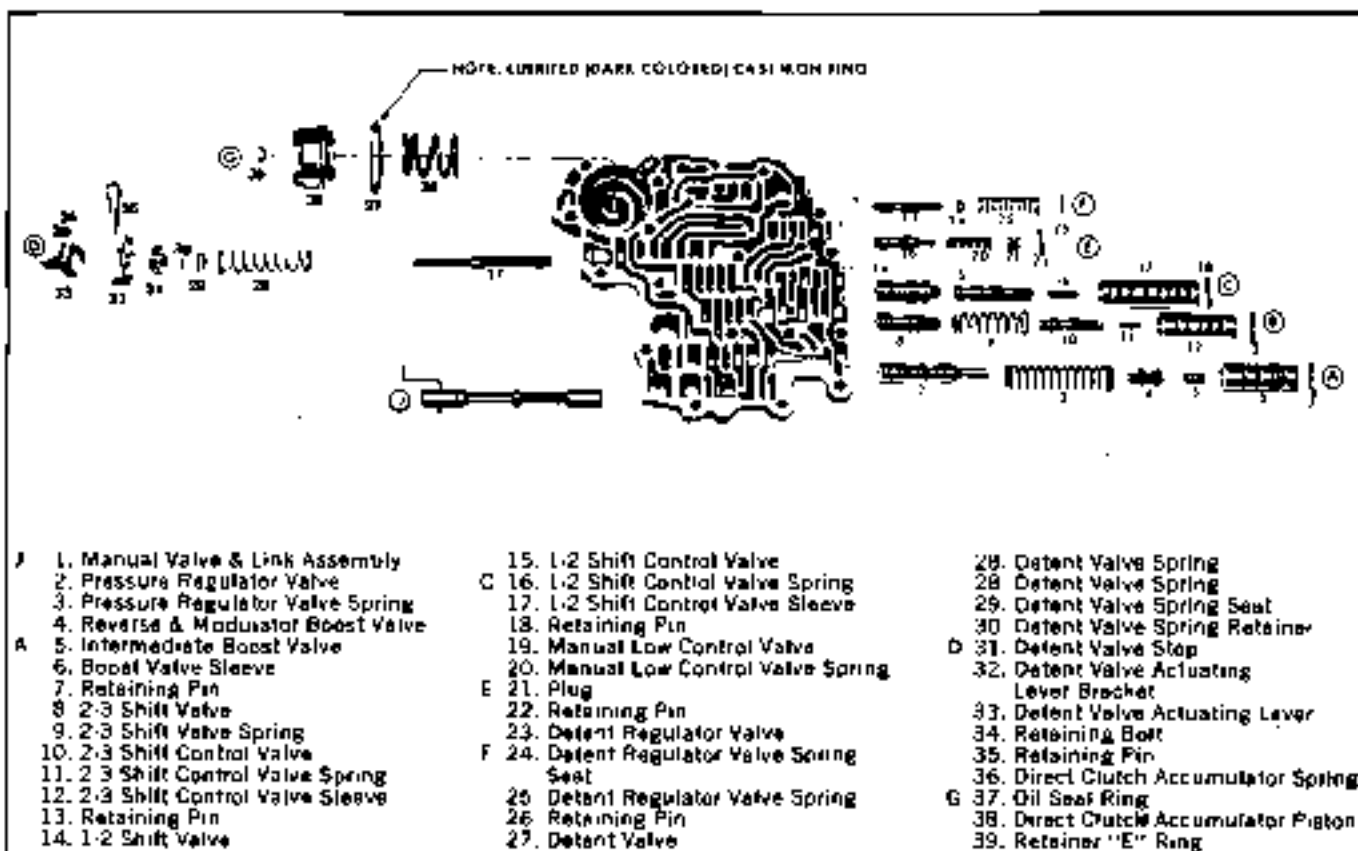

Fig. 7G-43 Exploded View of Valve Body Assembly
4. Using Accumulator Compressor J 21885 on direct clutch accumulator piston, compress piston and remove retainer "E" ring (Fig. 7G-44).